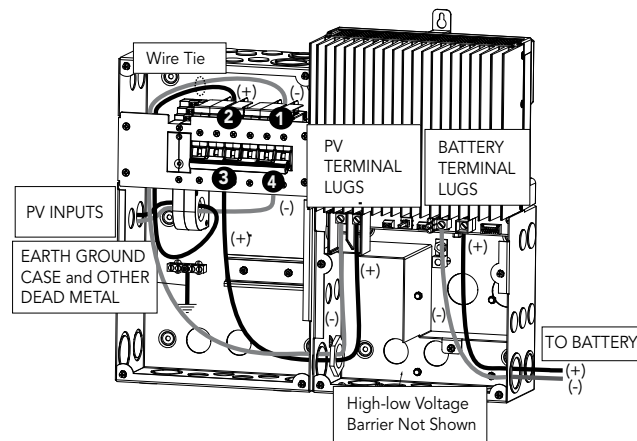

Figure 7. Completing Wiring for Standard Box
NOTE: Use included wire tie to secure wires above breaker assembly as shown in Figures 7 and 8.
REMARQUE: Utilisation fourni attache de fil aux fils sûr ci-dessus assemblée de disjoncteur tel qu'illustré aux Figures 7 et 8.
Step 7. Run (+) and (-) controller<->battery wires into the controller through right upper level knock-out above the metal high-low voltage barrier. If using a Standard Box (Figure 7), connect (+) and (-) controller <->battery wires directly to controller's (+) and (-) battery terminal lugs. If using a DB model controller, see note in Step 8.